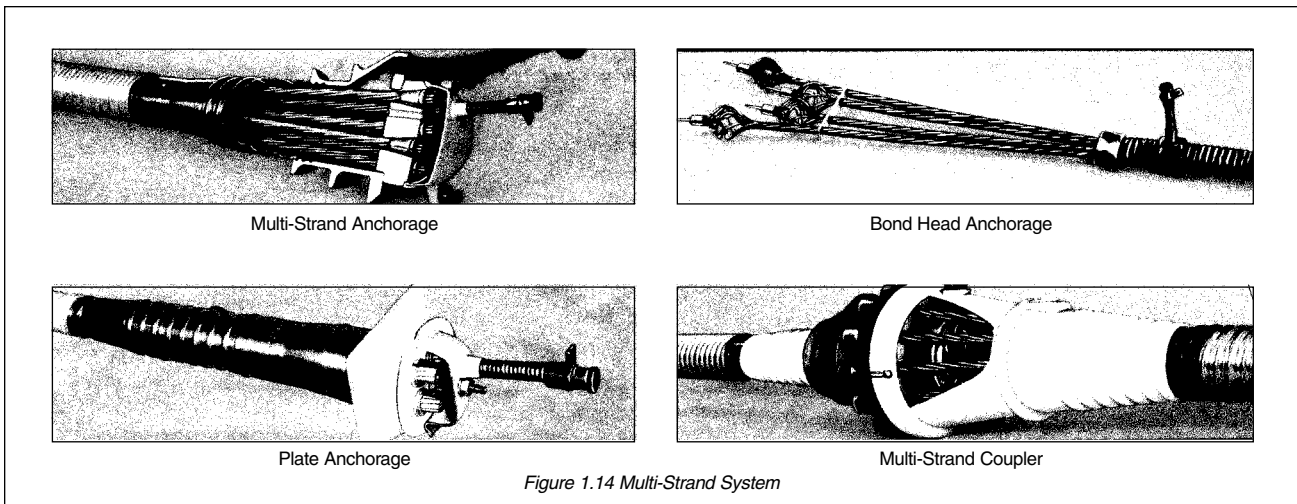

Figure 1.14 Multi-Strand System
- Large multi-strand tendons can have from 31 to 55 strands (Figure 1.14).